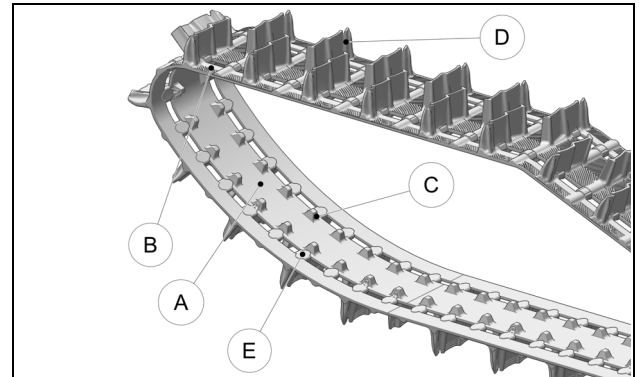

Figure 54
Verify wear on Track by inspecting the internal (A) and external (B) condition of the Track's carcass rolling path, driving lugs (C), the profile (D). Make sure that the Track's internal structure is not visible at cuts or in worn areas. Make sure the steel clips (E) are not abnormally worn. See Figure 54.